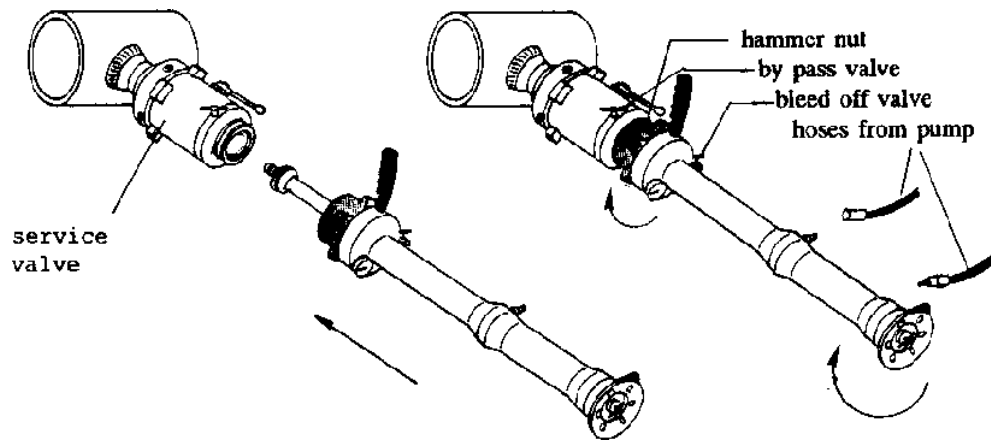

Fig. 7
12. Hold the retriever so the connecting rod faces the service valve. Put the connecting rod into the service valve, and mate the threads on the rod and the plug together. Screw the rod into the plug by rotating the retriever. Screw until the rotation suddenly stops. Do not tighten (fig. 7).
14. Connect the hammer nut to the service valve, and screw until it stops. Then tighten the hammer nut by use of the plastic hammer (fig. 7).